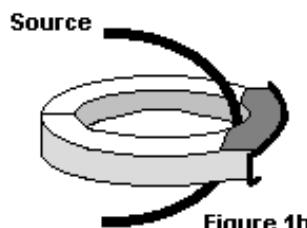

Figure 1b
- 2.b Move the jaw to the bottom of the clamp {see figure 1b} and note reading